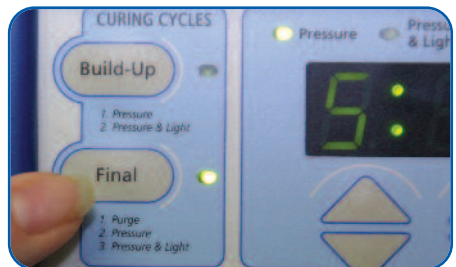

Fig. 7
11. Cure incisal layer in the *Sculpture* Curing Light using the Final cure cycle. (Fig. 7)